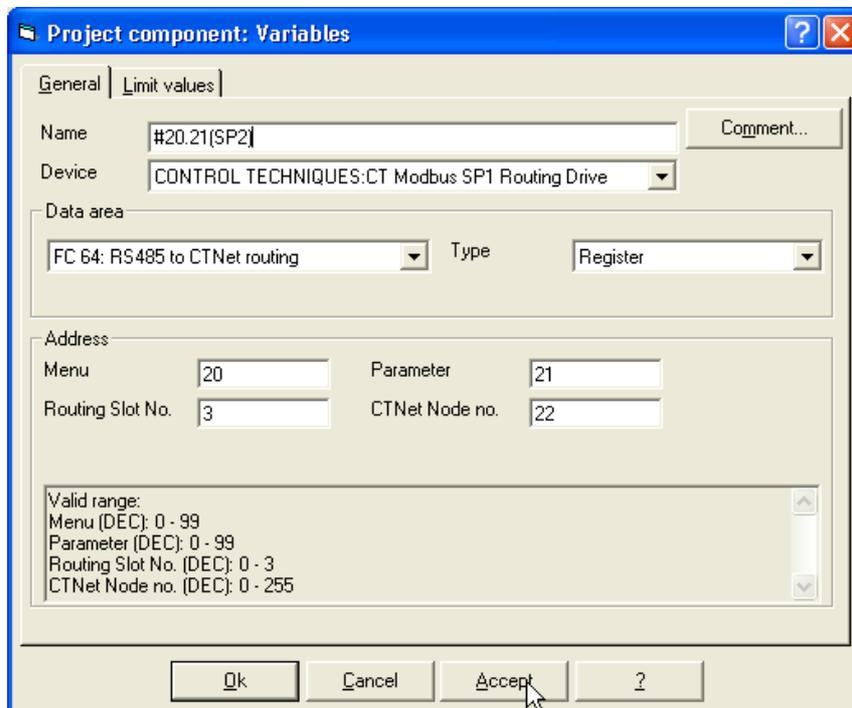

Fig. 14.
3.13 For #20.21(SP2) variable see Fig. 14